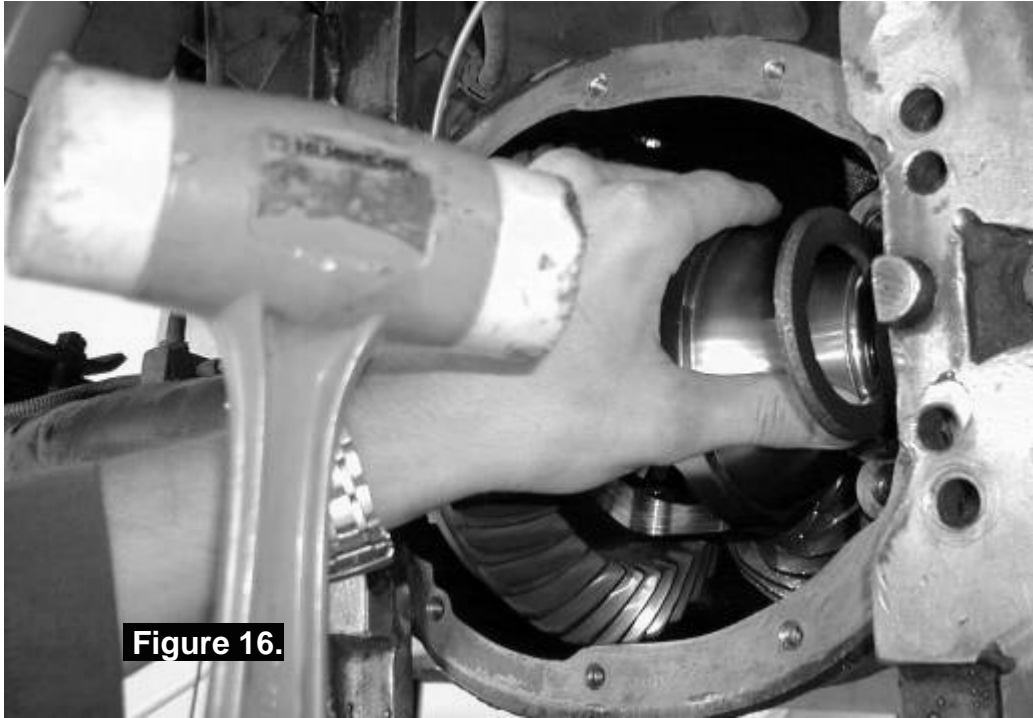

Figure 16.
- ☐ While holding the *Air Locker* into the axle housing, lightly tap the original right-hand master shim into place on the right-hand side between the *Air Locker* master shim and the bearing seat of the axle assembly. (Refer to Figure 16.)